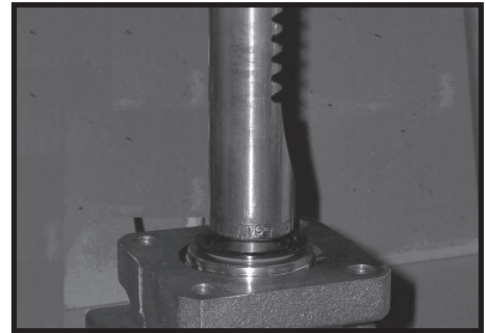

Figure 40
The Small Frame Series TC, TS, TB and TE Torqmotor™ dirt and water seal (20) must be pressed in until its' flange is flush against the housing. SEE FIGURE 40.